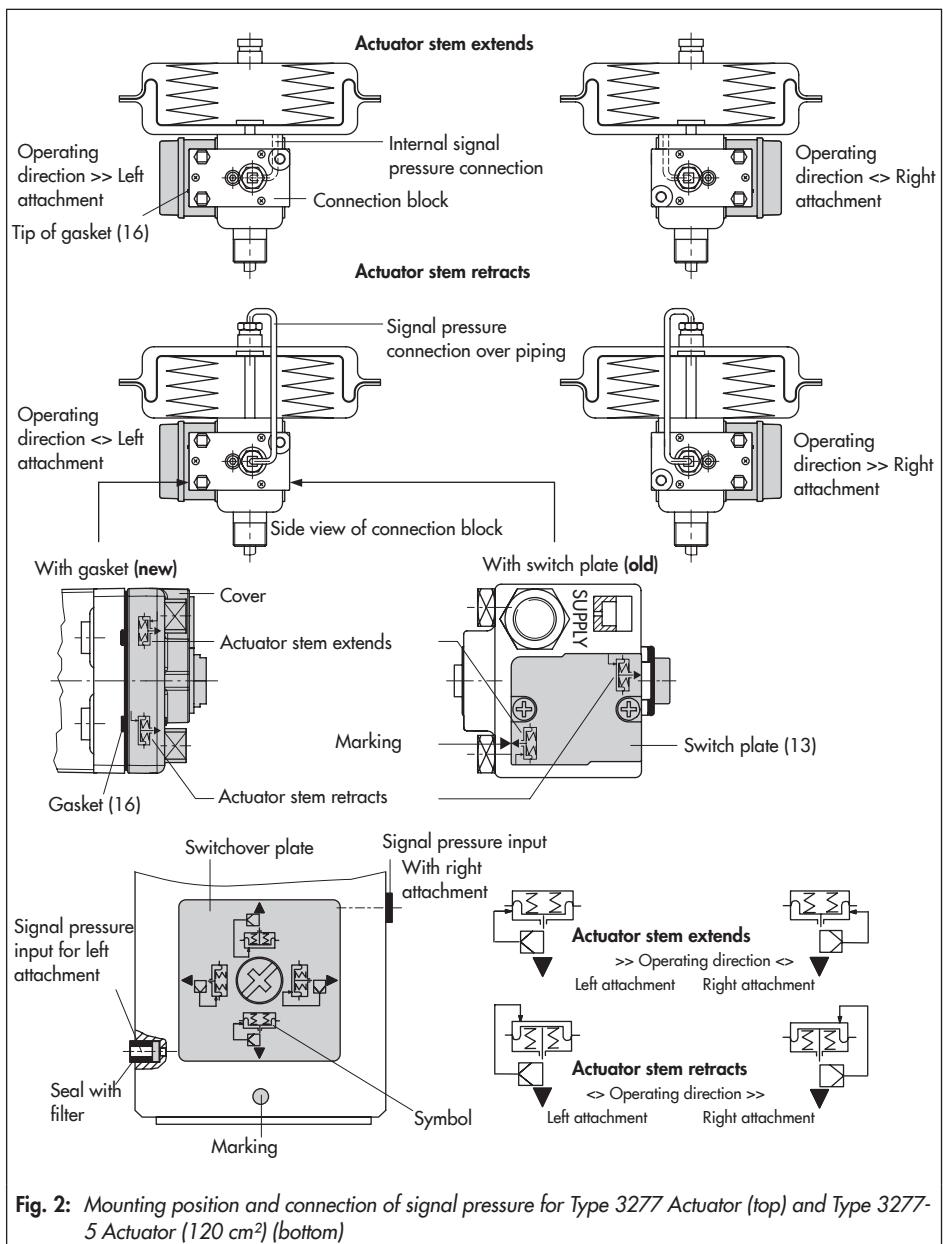
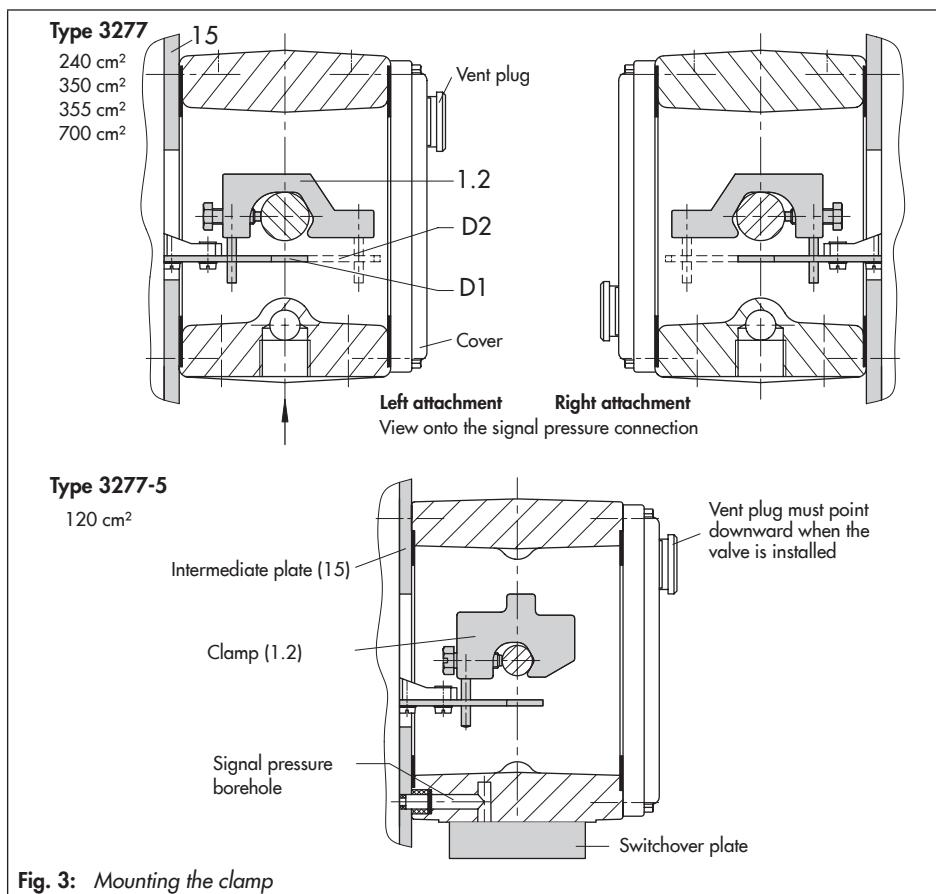

Fig. 2: Mounting position and connection of signal pressure for Type 3277 Actuator (top) and Type 3277-5 Actuator (120 cm2) (bottom)
Fig. 3: Mounting the clamp
The operating direction of the positioner also determines its mounting position on the actuator as illustrated in Fig. 2, Fig. 3 and Fig. 5.
7. Make sure that the tip of the gasket (16) projecting from the side of the connection block (Fig. 2, middle) is positioned to match the actuator symbol for the actuator's fail-safe action "actuator stem extends" or "actuator stem retracts". If this is not the case, unscrew the three fastening screws and lift off the cover. Turn the gasket (16) by 180° and re-insert it.
The signal pressure is transmitted to the diaphragm chamber over the switchover plate (Fig. 2 and Fig. 3, bottom).